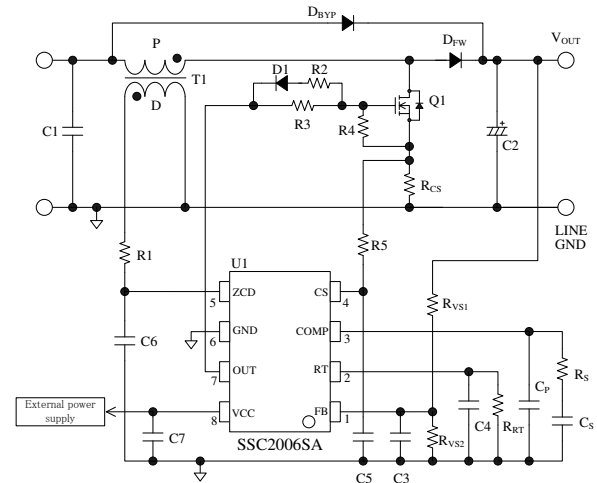

Figure 9-3 The IC peripheral circuit.
Figure 9-3 shows the IC peripheral circuit.
R_{CS} shown in Figure 9-3 is current sensing resistor. R_{CS} is the resistor for the current detection. A high frequency switching current flows to R_{CS} , and may cause poor operation if a high inductance resistor is used. Choose a low inductance and high surge-tolerant type. R_{CS} is calculated using the following Equation (13), where Overcurrent Protection Threshold Voltage $V_{CS(OC)}$ is 0.72 V and I_{LP} is calculated using Equation (6).